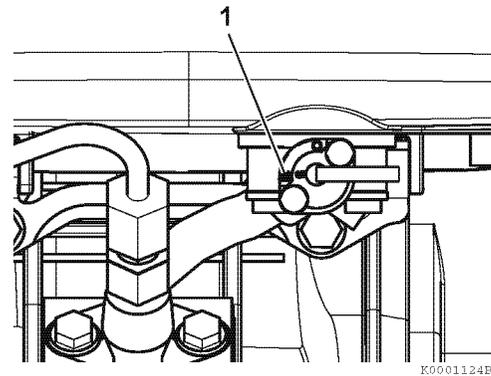

Figure 10
1. Move the fuel cock lever to the closed position (1, **Figure 10**).